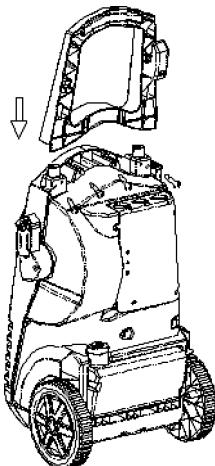

Fig 1.
2. Connect the handle (2): Press it down from the upward position and secure it with the screws included (see fig. 1).